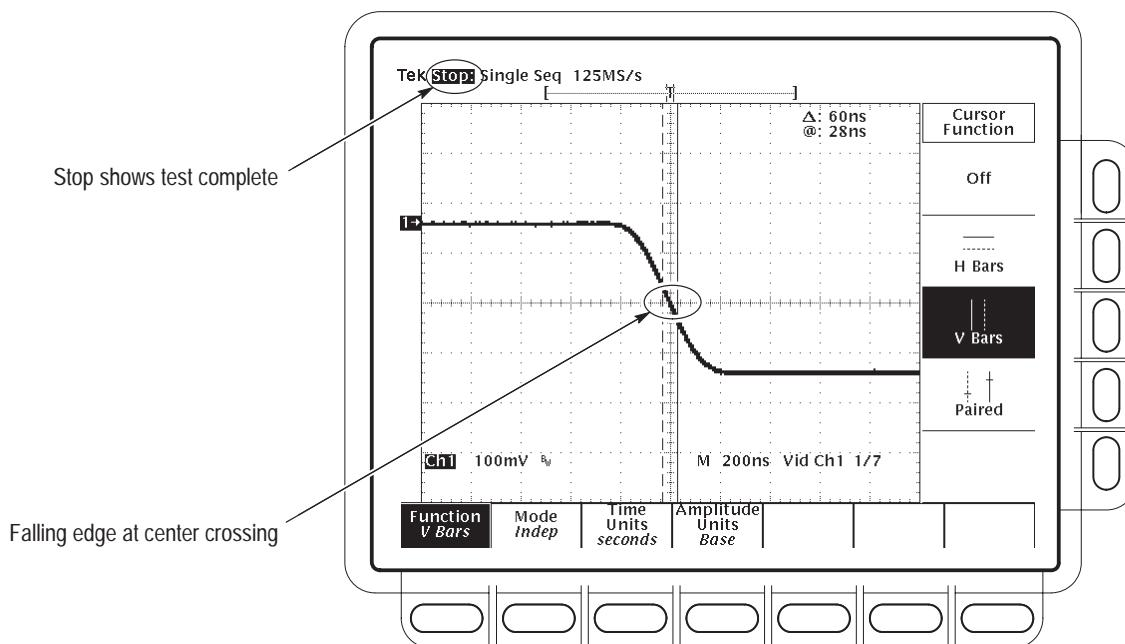

Figure 4-27: Jitter test when completed – TDS 754D shown
- i. CONFIRM that the width of the falling edge of the trace (at the center crossings) falls between the cursors. See Figure 4-27.